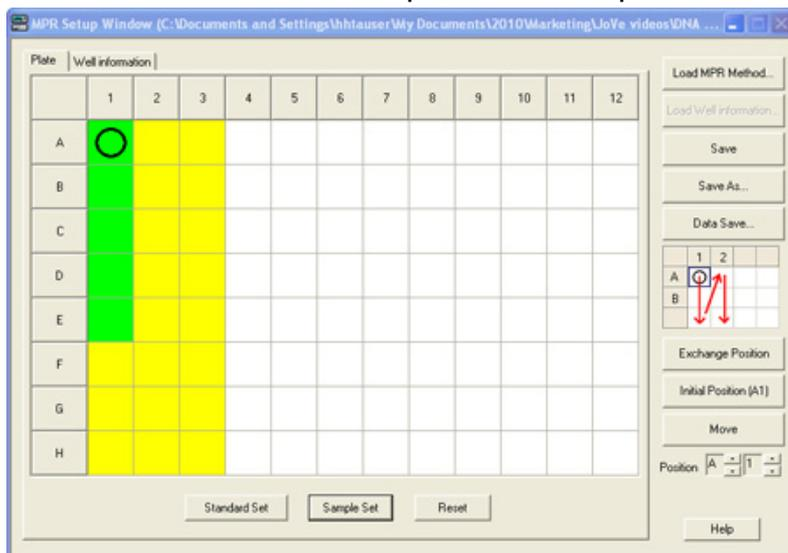

Figure 7. MPR Setup window, Plate tab.
Select wells for the Standards and Samples in the MPR Setup Window/Plate tab, as shown in Figure 7.
1. Pipette 150 μ L of each standard into wells A1-E1 of a 96 well plate, per Figure 7, and according to the following table:
2. Pipette 150 μ L unknown samples into wells F1 to H3, shown in Figure 7